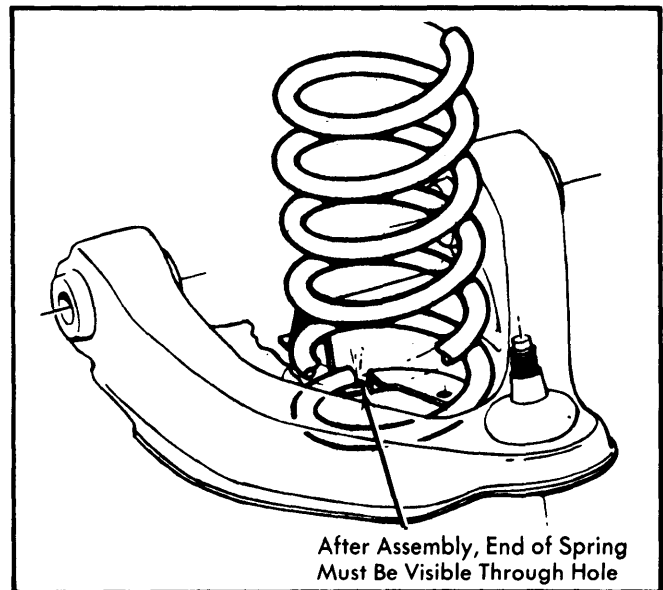

Fig. 3 View Showing Coil Spring Installed Position
**Installation** – Position coil spring in spring tower as shown in Fig. 3. Guide lower control arm ball joint stud into place in steering knuckle and install stud nut. Tighten stud nut to specifications and install cotter pin. Remove safety chain. Connect tie rod end to steering knuckle. Install shock absorber, stabilizer bar (if equipped), and wheel.